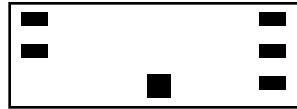

Figure 5-10
- ☐ Install caps on switches S1 through S6. S3's cap is square, while the others are rectangular, as shown in Figure 5-10. The caps are installed by pressing them onto the switch plungers.